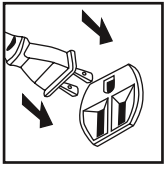

Fig. 7
5. Verify the switch is in the '0' (OFF) position before plugging the power supply (Fig. 7)